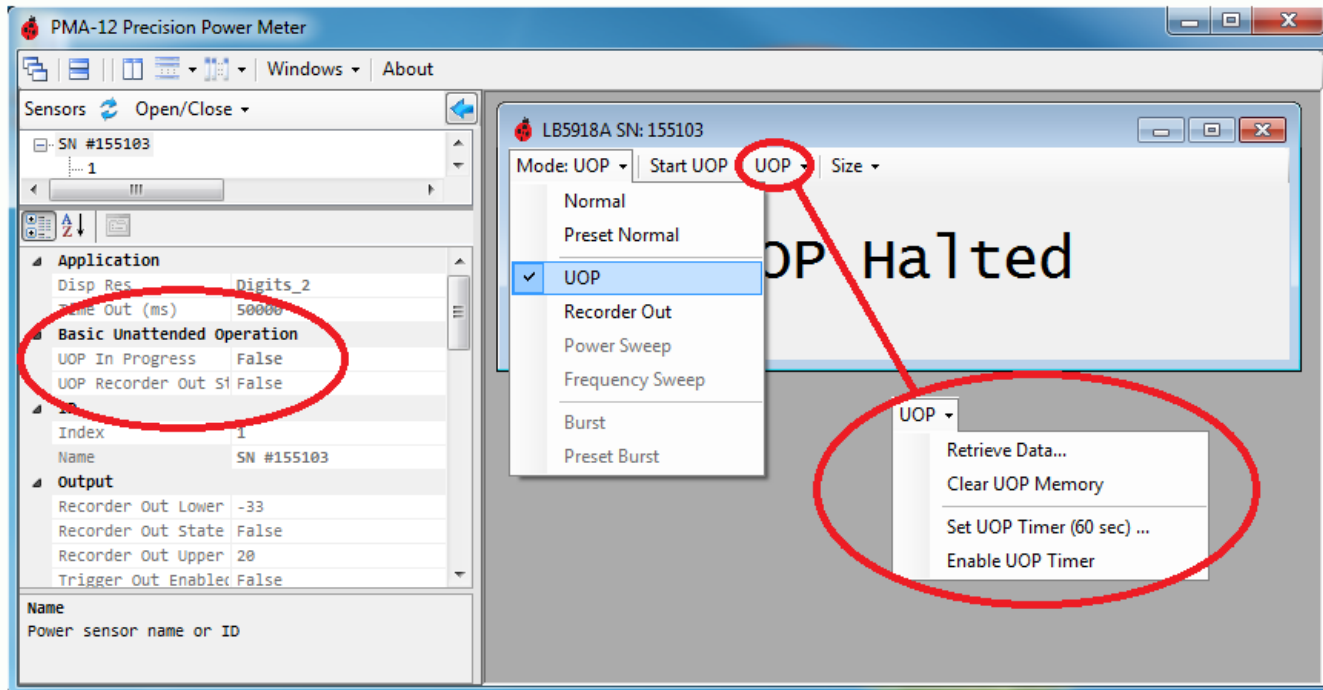
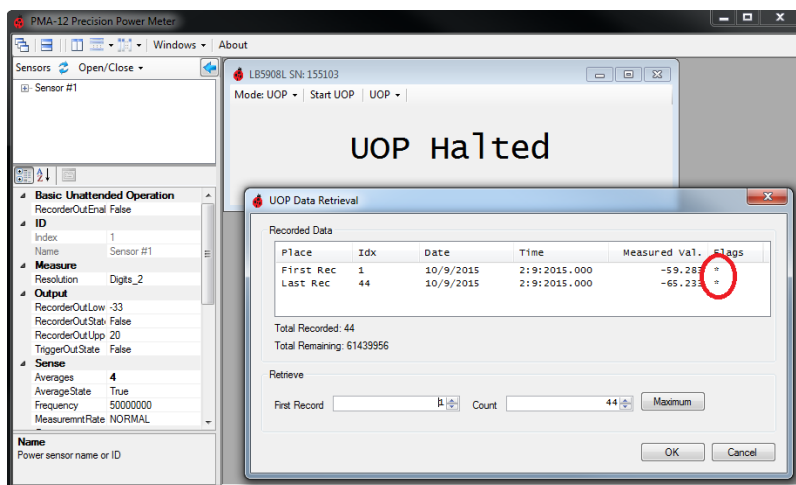

Figure 17 - UOP Setup
Figure 18 - UOP Retrieve Data
Figure 17 shows PMA-12's setup screen for UOP. A quick way to try UOP is to set the sensor up to its preset configuration by selecting *Preset Normal* then clicking UOP and then in the top menu, select *Start UOP*. Even though the computer is connected, the sensor is storing measurements into its internal memory. The sensor can now be unplugged and reconnected to power only or to a computer for its power supply. Either way, the sensor will begin appending measurements to its storage. If a UOP timer is setup (Circled in Figure 17), UOP will operate for the time period established then stop.
Clicking *Halt UOP* (not shown) will cause the sensor to stop storing measurements. Using the selections circled in Figure 17, the memory can be retrieved or cleared. Clicking *Retrieve Data* results in the sensor delivering a list of stored measurements as shown in Figure 18. Data can be saved to a file or copied to the clipboard for use in Spreadsheets or other programs.
In order to make measurements of the highest accuracy, the sensor must be fully stable. It can take up to several minutes for the sensor to become stable. Measurements made prior to assured stability are marked with an * in the Flags column of the retrieved measurement data shown in Figure 18, circled in red.
To protect equipment that may be controlled by Recorder Out, the default condition for Recorder Out when returning from power up is always OFF unless specifically set otherwise, this includes power up in Unattended Operation. To enable Recorder Out for use while the sensor is operating in Unattended Operation mode, a special function must be set. This parameter, *UOP Recorder Out State*, is circled at left in Figure 18. When set to True, Recorder Out will function while the sensor is running in Unattended Mode. The parameter can only be changed when the sensor is operating in Normal Mode (Figure 18 middle, Mode). While the sensor is in UOP Active (In progress) the function will remain set and the sensor can be repeatedly power cycled without losing the Recorder Out during UOP state. If the sensor is powered up while UOP is not active, *UOP Recorder Out State* will be cleared to FALSE and Recorder Out will not operate in Unattended Operation unless the parameter is set again.
3. In the Sensor Window, Under the Mode Dropdown, Set the mode to *Recorder Out* (Figure 17 middle)
5. Under the Mode Dropdown, Set the mode back to *Normal* (Figure 17 middle)
6. Under *Basic Unattended Operation*, set *UOP Recorder Out State* to True (Figure 17 left)
7. In the Sensor Window, Under the Mode Dropdown, Set the mode to *UOP* (Figure 17 middle)